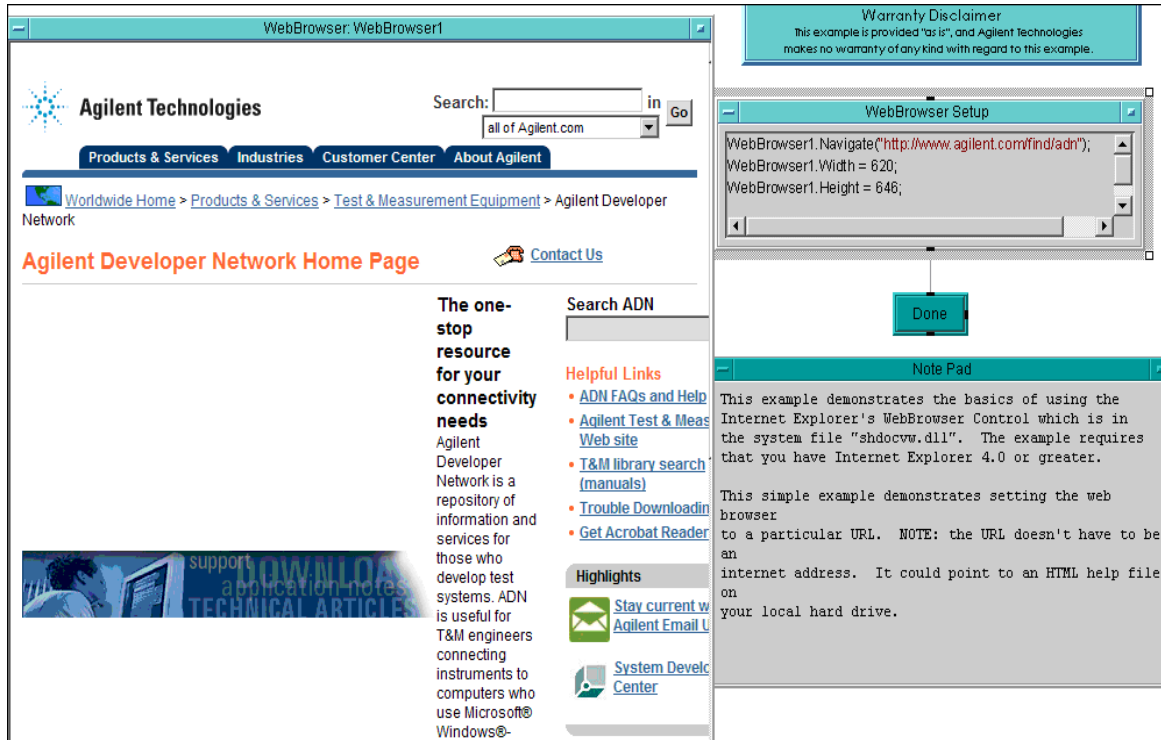

Figure 2-9 WebBrowser with a Web Address change
- 6 An example of using a different web site is given in Figure 2-9 after changing the first line of the WebBrowser Setup object to <http://www.agilent.com/find/adn>.